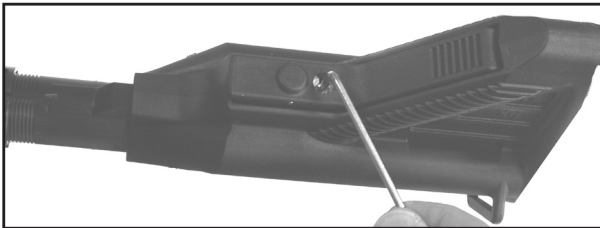

Fig. 48 – Buttstock Tightening Screw
- b. Check to ensure that the buttstock tightening screw is loose before attempting to remove the buttstock. If tight, insert the large tip (3mm hex) of the MR556A1 Disassembly Tool into the tightening screw and rotate (but do not completely remove) counter clockwise (Fig. 48).